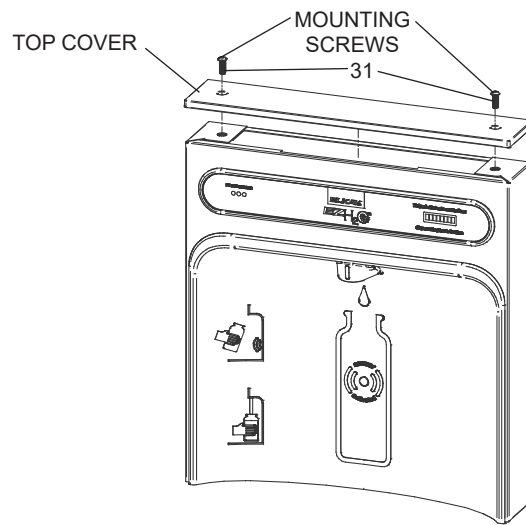

Fig. 9
- 1) Remove two (2) mounting screws with 5/32" Allen wrench holding top cover to Bottle Filler (See Fig. 9). Remove top cover. Note do not discard mounting screws, they will be needed to reinstall top cover.
- 8) With the power cord, wire(s), and waterline through hole on top of water cooler place Bottle Filler on the three (3) angled tabs protruding from the wall mounting plate installed on wall. Make sure round boss in gasket fits in hole of basin.
- 9) Once Bottle Filler is installed on wall plate tabs, make sure the water line, wire(s) and power cord are installed properly. Inspect for leaks, fix all leaks before continuing. Push top of Bottle Filler toward wall and line up top cover two (2) holes.
- 10) Reinstall Top Cover on Bottle Filler (See Fig. 9) with two mounting screws from step 1 above. Caution, do not over tighten screws.